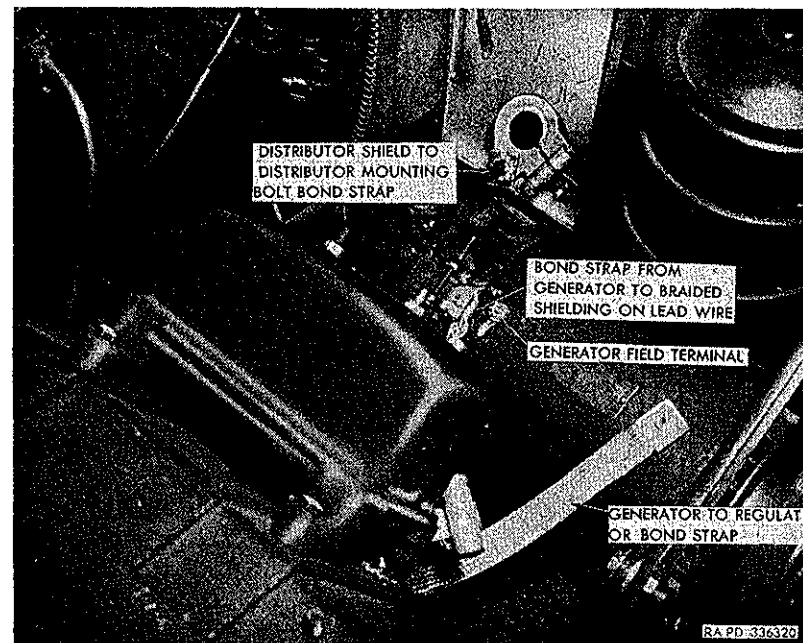

Figure 5. View showing front generator to regulator bond.
distributor shield bracket 7058931 and install a  $\frac{1}{4}$ -inch bolt. (37) Attach one end of bond strap to bolt just installed, using internal-external-tooth lock washer and nut, and attach other end of bond strap to distributor mounting bolt. Tighten both ends securely (fig. 5).
(38) Drill and tap a No. 8-32 hole in the generator housing opposite the field terminal and between the openings of the inspection cover. Attach one end of a bond strap to hole just drilled with No. 8-32 screw and internal-external-tooth lock washer, and solder the other end of bond strap to braided shielding which is part of lead wire 7713904 (figs. 5 and 6).
(39) Install generator to regulator bond strap as shown in figure 5.